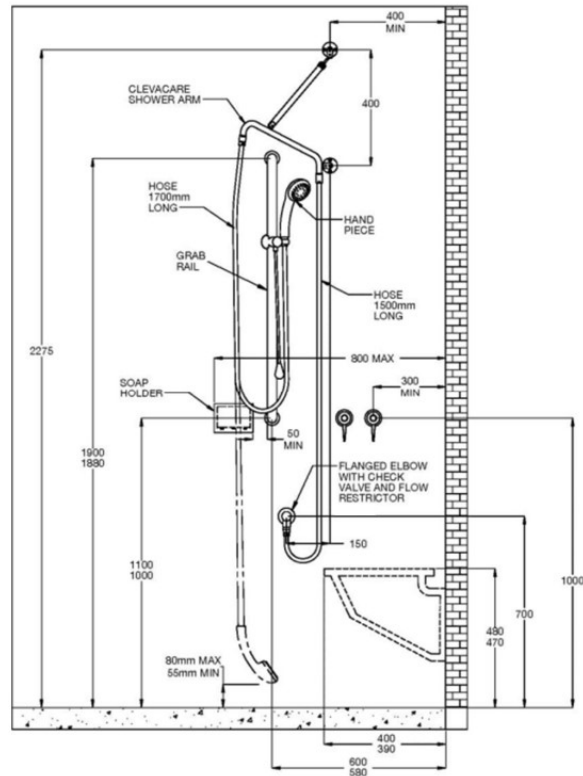

Figure 1
2. Figure 1 shows a Clevakit typical installation conforming to AS1428.1-2009.